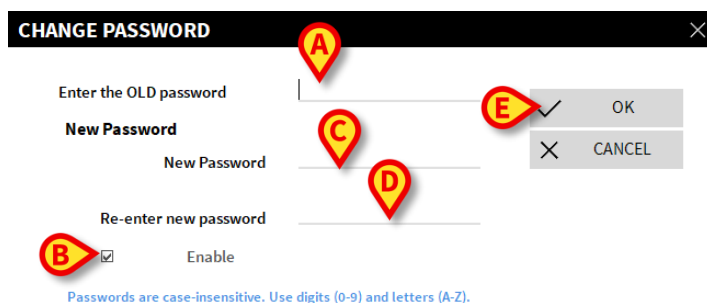

Fig 38
- Type the current password in the “**Enter the OLD password**” field (Fig 38 **A**).
- Verify that the “**Enable password**” checkbox (Fig 38 **B**) is selected.
- Type the new password in the field indicated in Fig 38 **C**.
- Type again the new password in the field “**Re-enter new password**” (Fig 38 **D**).
- Click the **Ok** button (Fig 38 **E**).